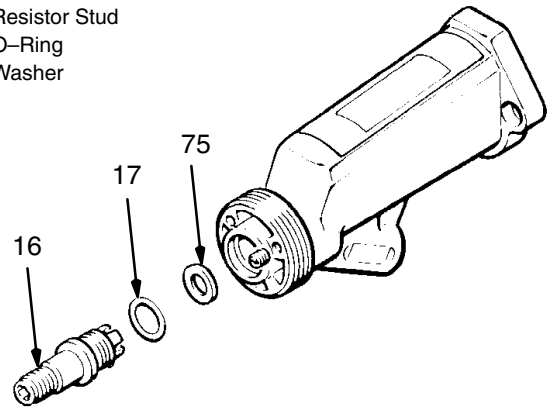

Fig 11
3. Using the wrench (59h) supplied, unscrew and remove the resistor stud (16) with the o-ring (17) and washer (75). See Fig 11.